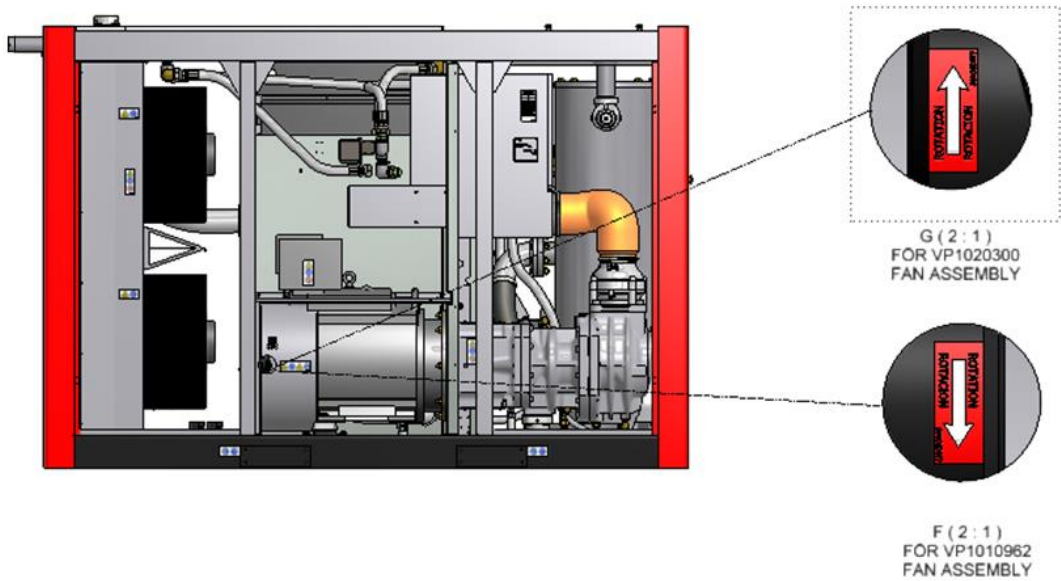

Figure 3-1 – MOTOR FAN ROTATION CHECK
- Use Controller “JOG MODE” to bump main motor cooling fan. Proper rotation is achieved when cooling air is discharged over the main motor body or when fan rotation matches that indicated by the arrow decal affixed to the fan hub, as viewed via the serrated cutout on the fan shroud. See Figure 3-1 for details.
- Locate, within the electrical enclosure, the three (3) wires feeding power to the motor in question.
- Loosen, reverse, and re-fasten the connections of any two (2) of the wires.